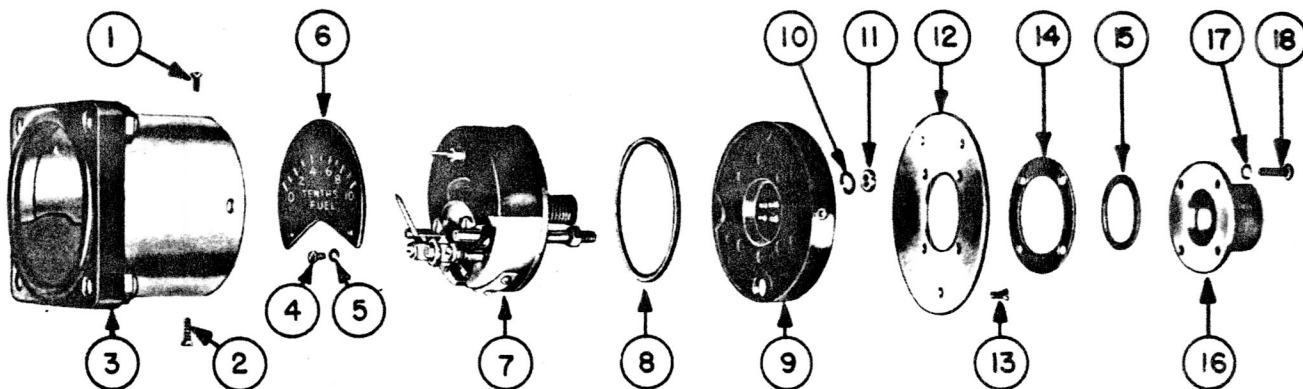

Figure 231—Case, Scale, Receptacle Housing, Shield,
**(1) CASE REMOVAL.** (See figure 231.)
**(2) SCALE PLATE REMOVAL.** (See figure 231.)
(See figure 231.)
**(4) REAR SHIELD REMOVAL.** (See figure 231.)
**(5) BASE REMOVAL.** (See figure 231.)